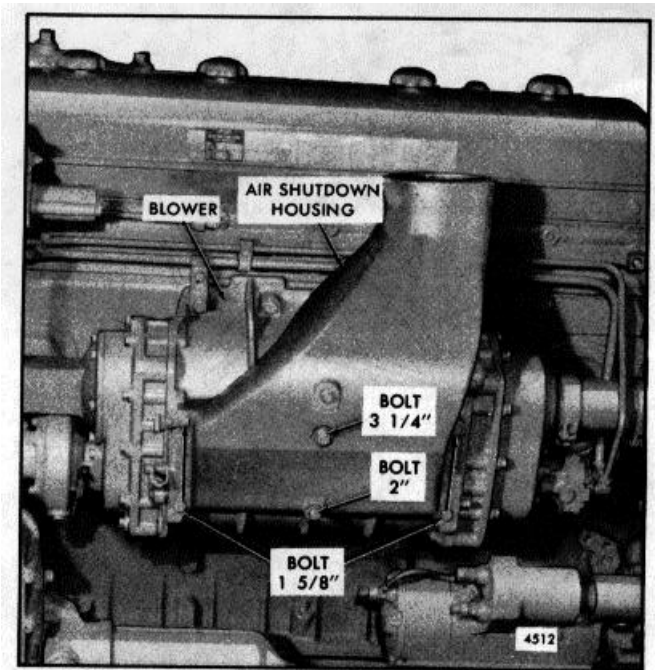

Fig. 2 - Air Shutdown Housing Mounting and Bolt Location
2. Refer to Fig. 2 and mount the air shutdown housing together with the striker plate gasket and striker plate on the blower with bolts and lock washers and tighten the bolts to 16-20 lb-ft (22-27 Nm) torque.
NOTE: The 3/8 "-16 x 3-1/4" bolt and the 3/8 "-16 x 2 " bolt must be installed as shown in Fig. 2. The four 1-5/8" bolts are installed in the four corner bosses of the housing.